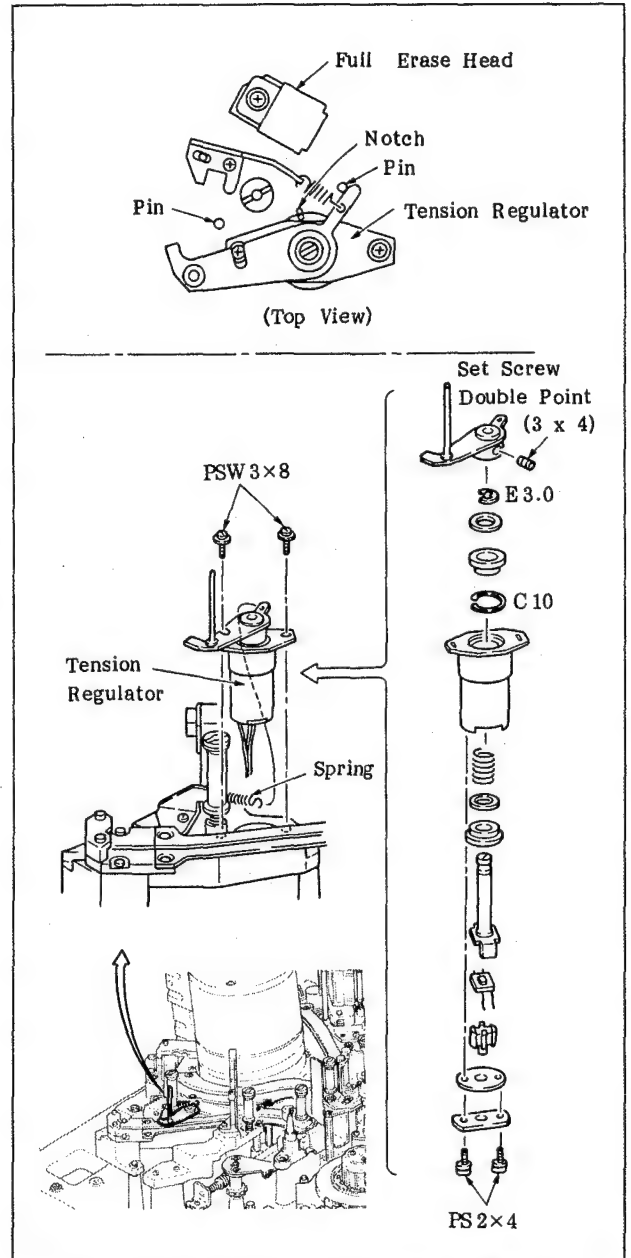

Fig. 6-52 Replacement of the Tension Regulator
- A. Refer to Figure 6-52 when replacing the components of the tension regulator. Adjustments to be made after replacement can be made in a manner similar to that of assembling.
2. Remove the tension regulator, or the component, and replace it with a new one by referring to Figure 6-52.
Note: Be careful of the position of the notch and the pins, as shown in the upper drawing of Figure 6-52, when attaching the tension regulator assembly.